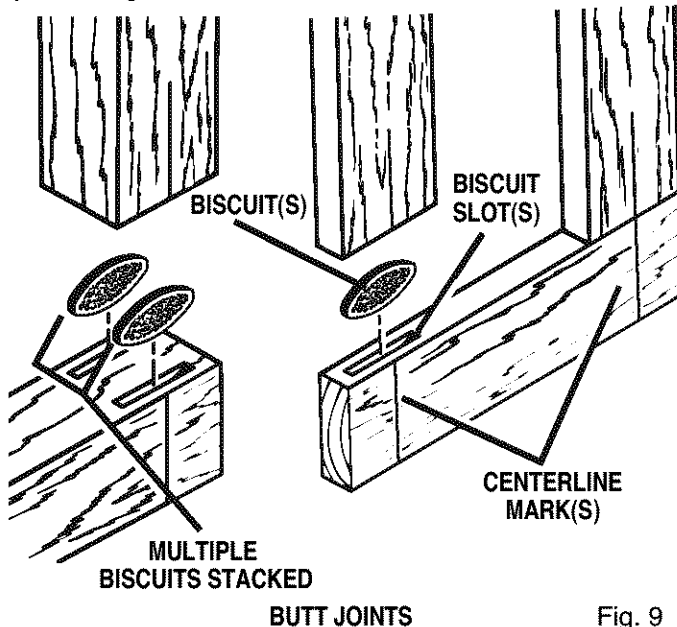

Fig. 9
When joining thick materials, stack two biscuits, one above the other. For example, joining 2 in. x 4 in. dressed lumber. *See Figure 9.* When joining even thicker materials, use additional biscuits, stacked above each other.
See Figure 9.
- Finally, disassemble the workpieces and place a bead of glue in each slot. Also, spread a bead of glue over the entire surface of the joint. Reinsert the biscuits and assemble the workpieces. See Figure 9.